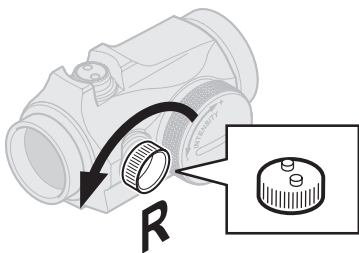

Fig. 4 → 2.3
- a Open lens covers (11) and (12).
- b Adjust the intensity (8) to a comfortable setting for the red dot to contrast against the target.
- c To access elevation adjustment screw (4) and windage adjustment screw (5), remove the adjustment cap (2) and the cap (3).
- d The adjustment cap (2) or the tool (13C) must be used to turn the adjustment screws. Place the knobs on the adjustment cap (2) into the recesses on the adjustment screws (4) and (5).
- e Windage adjustments (See Fig. 4)